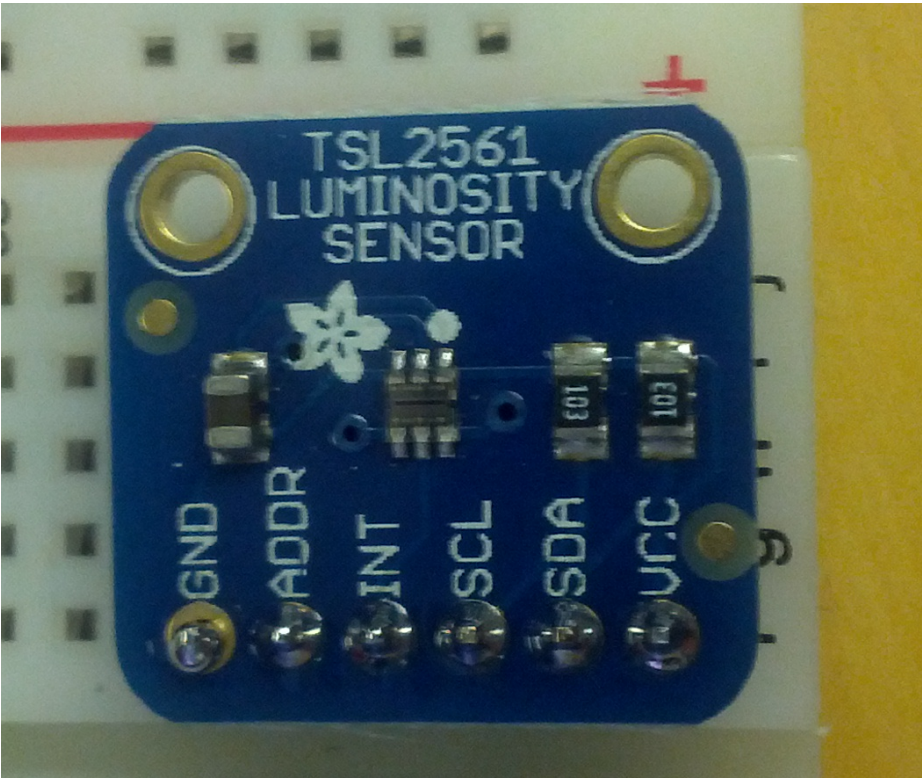

Figure 4-7.
- It is also small, about the size of a U.S. quarter (see Figure 4-7).